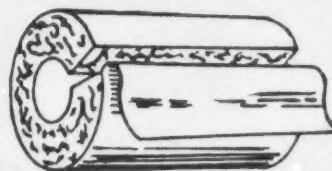

Figure 36-6. Magnesia Insulation
8. Magnesia pipe insulation is composed of about 85 per cent magnesium and long asbestos fibres bonded into an expanded, light material (Figure 36-6). It has maximum strength and is very suitable for steam and hot water lines or other pipes whose temperature does not exceed 320°C. It has a canvas jacket and may be used on pipes of up to 500 mm diameter. Magnesia insulation is made in 900 mm sections with a standard thickness of 22 mm and a double-standard thickness of 48 mm. It also comes in powdered form (also called "asbestos shorts") to make a cement for fittings or valves, and in block form for insulating boilers.